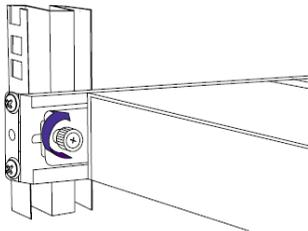

Figure 16 Tightening the thumbscrews
3. Secure the Switch 116 IP to the rail by inserting the thumbscrews through the bracket and into the rail and tightening them, see Figure 16.